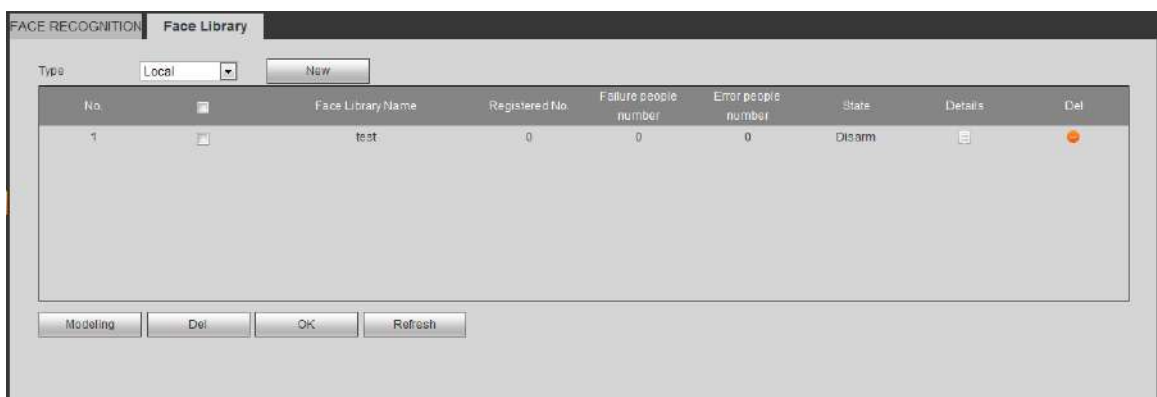

Figure 5-83
System saves the face library successfully. See Figure 5-83.
- Step 1 In Figure 5-83, click  corresponding to the face library.